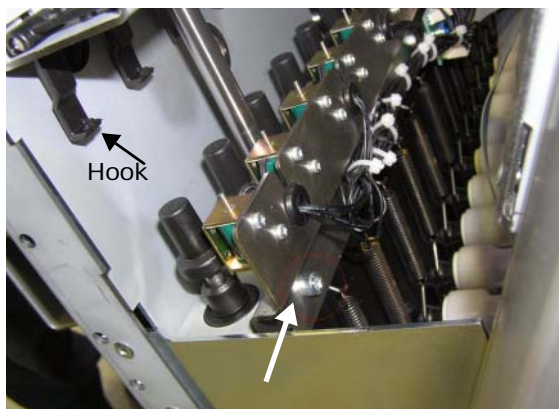

Figure 32: The solenoid rail is fastened on both ends with a screw to the dispensing module.
- Open the Allen screws on both ends of the solenoid rail, see figure 32.